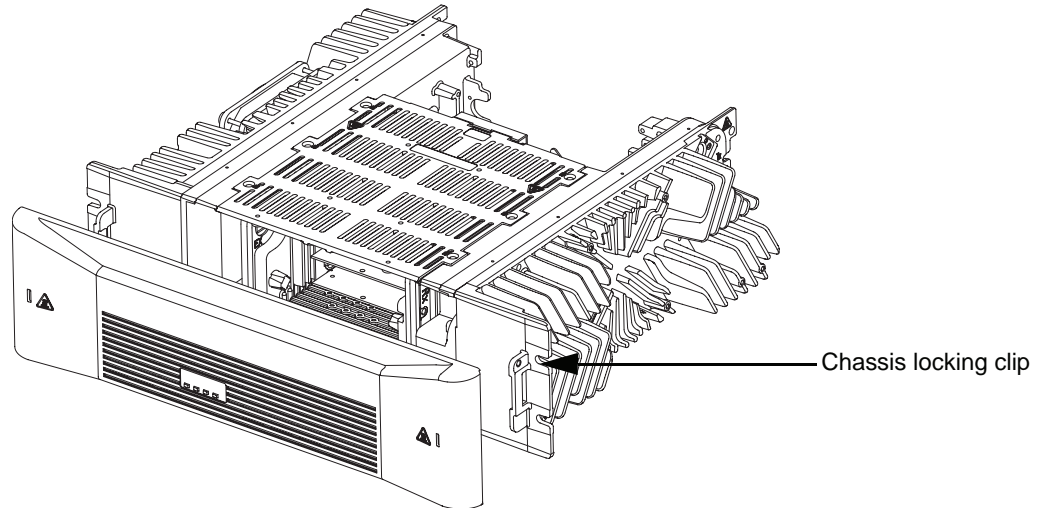

Figure 10-1 Removing Front Bezel
1. Remove the MTR2000 Base Station/Repeater front bezel from its chassis locking clip by carefully pulling the bezel forward (Refer to Figure 10-1).